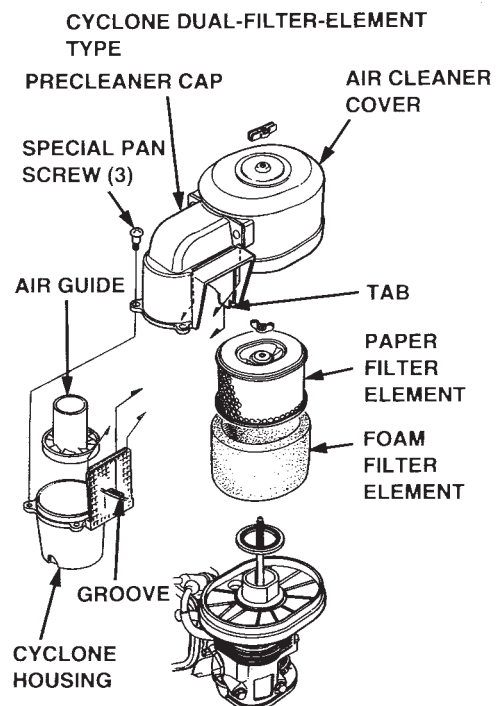

Figure 32. Engine Air Cleaner
- Tap the paper filter element (Figure 32) several times on a hard surface to remove dirt, or blow compressed air [not exceeding 30 psi (207 kPa, 2.1 kgf/cm2)] through the filter element from the air cleaner case side. **NEVER** brush off dirt. Brushing will force dirt into the fibers. Replace the paper filter element if it is excessively dirty.